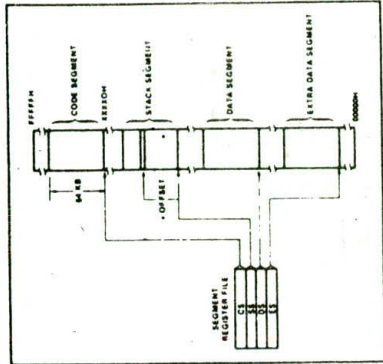

Figure 3a. Memory Organization
The processor provides a 20-bit address to memory which locates the byte being referenced. The memory is organized as a linear array of up to 1 million bytes, addressed as 000000(H) to FFFF(H). The memory is logically divided into code, data, extra data, and stack segments of up to 64K bytes each, with each segment falling on 16-byte boundaries. (See Figure 3a.)